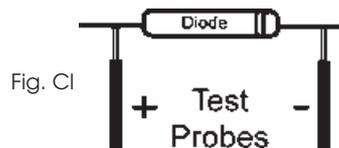

Fig. C1
2. When connected with polarity as shown in fig. C1 (below), a forward current flow is established, and the approx. diode forward voltage (VF) will be displayed.